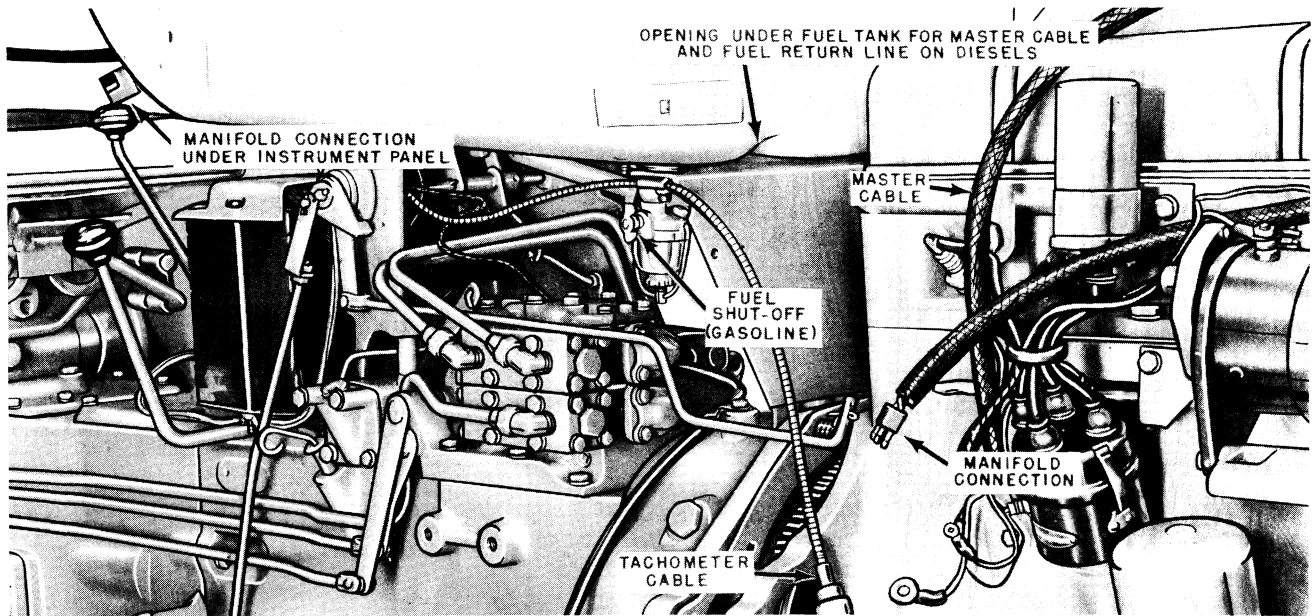
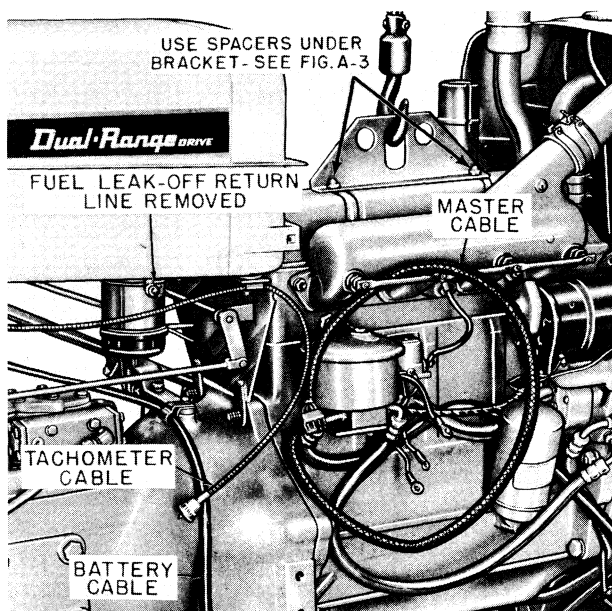

Fig. A-23 Conduit and Master Cable Removed from Under Fuel Tank
Fig. A-24 Preparing Diesel Tractor for Splitting R.H. View
11. Attach control rod or rods between control levers and control valves. The adjustable yoke on each rod must be installed to the rear end or to hand control lever. On Case-O-Matic models be sure to insert washers on the pin which attaches rod to control arm on hydraulic control valves. Fig. A-23. This prevents sidewise motion in the control rod.
5. Remove tachometer cable from generator. Fig. A-23.
6. Remove two nuts securing conduit from bottom of fuel tank, to remove master cable. Fig. A-23.
7. Shut fuel off underneath fuel tank, Fig. A-23 and Fig. A-24.
8. On diesel tractors, remove fuel leak-off return line which attaches to filter base to permit removal of master cable. Fig. A-24. If line is going to be removed from opening under fuel tank, remove the master cable first to provide space for line removal.
9. The master cable is equipped with a manifold type connection, Fig. A-23. Pull master cable apart at
connection and remove from under the fuel tank. On diesel tractors the fuel return line which goes through the same opening as master cable must be taken loose on both ends to provide sufficient space for end of master cable to be withdrawn through opening at the front end of fuel tank. Fig. A-23.
11. With a 9/16" wrench, remove the three capscrews from starter housing and withdraw starter. On gasoline tractors, remove cotter pin and remove throttle rod and spring as shown. Fig. A-23.